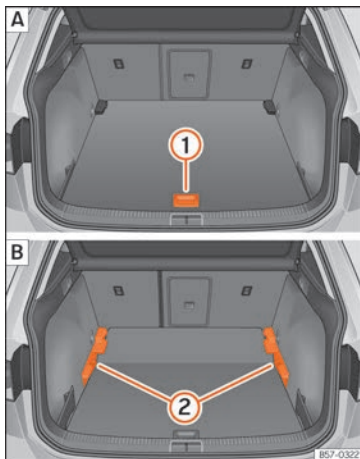

Fig. 136 Variable luggage compartment floor:
»» Fig. 136 (1), and pull it back until the front of the floor has fully passed the supports (2).
- Move the floor forward over the supports as far as the rear seat backrest and then lower the floor with the handle (1).
- Now let the front part fall to the floor and slide the floor forwards as far as the rear seat backrest; lower the floor at the same time with the handle (1).
- Lift the variable floor in the high position using handle » Fig. 136 ①, pull it up and push it towards the backrest of the rear seats until it folds along the hinge line and the movable part of the floor is resting on itself.
- To move from the high position to the low position, lift the floor using the handle » Fig. 136 ① and pull it back a little.
- Push the variable floor towards the folded rear seats with the handle ① using some downward pressure so that the moving part of the floor is flush with the backs of the rear seats.